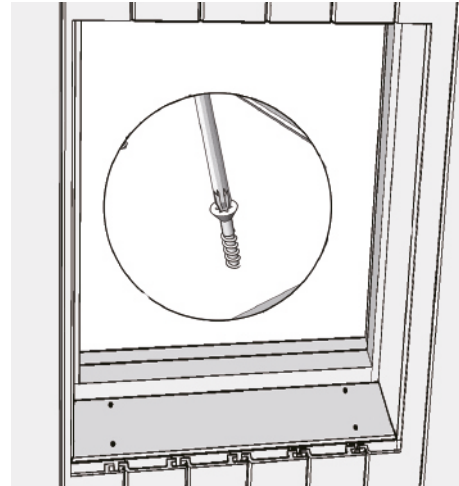

Fig18-1
2. Door and window wall cladding are installed and screwed in place after drilling pre-drilled holes. As shown in Figures 18-1, 18-2, 18-3: